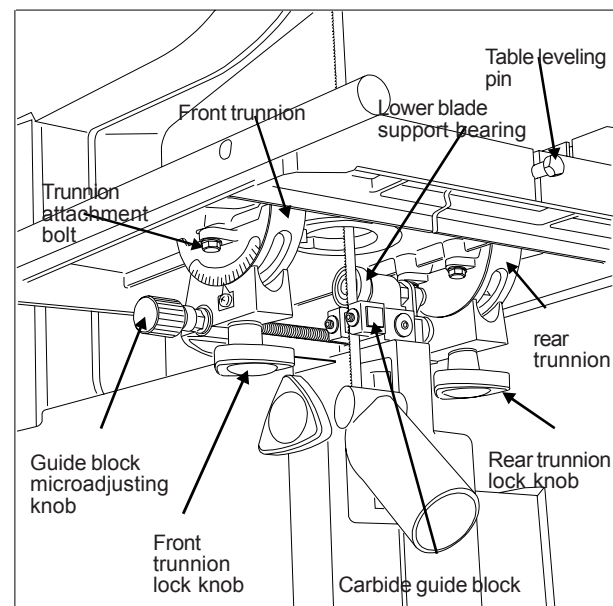

Figure 13. Lower Blade Guide Supports Front View
4. Remove table leveling pin. The pin has a tight push fit in its slot; it is not threaded. (Refer to Figure 13).